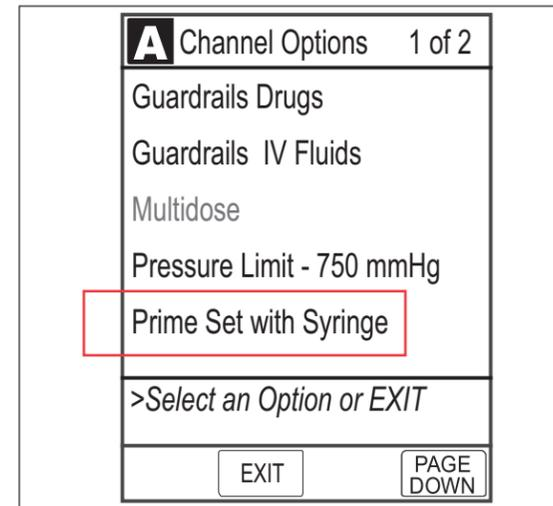

fig. 2
- Utilize **Prime Set with Syringe** feature on the Alaris® Syringe module to speed up the engagement of the device's mechanical components and decrease the internal friction of the syringe. (fig. 2)
5. Select **Prime Set with Syringe** (fig. 2)